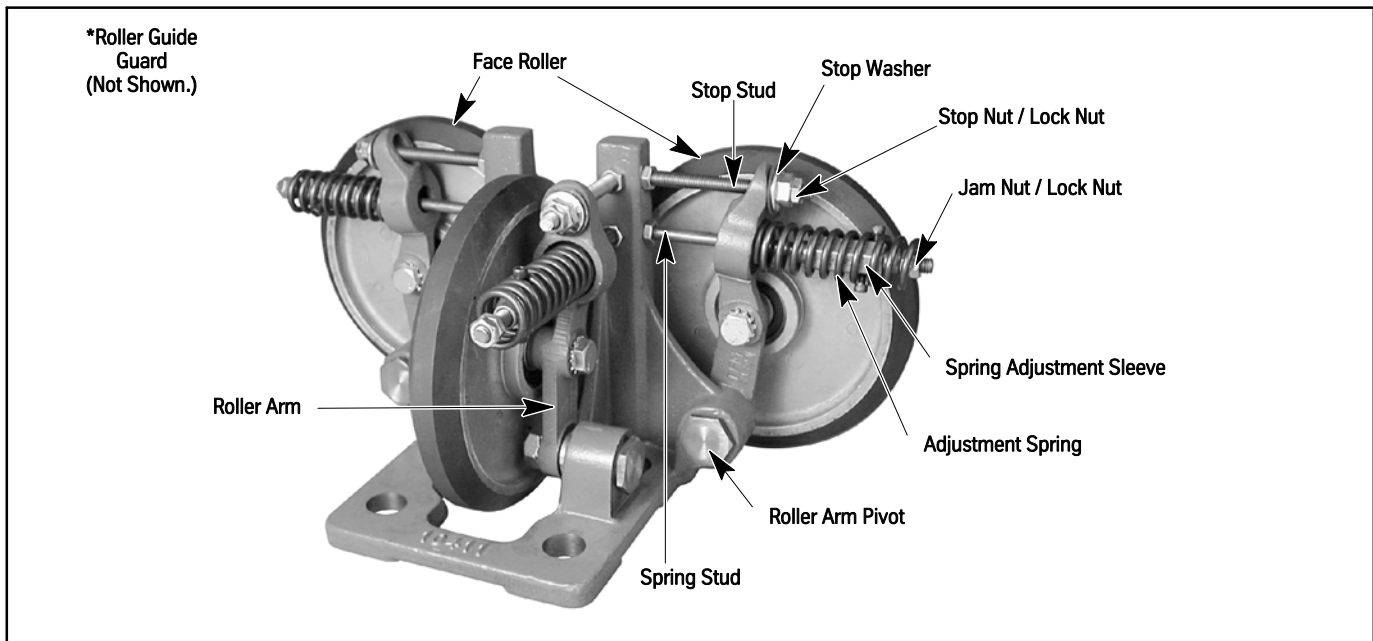

Figure 7 - 63190 or 63801 Roller Guide Assembly
- Set the spring adjustment sleeves. See Figure 7.
- Shift the base (as required) to center the slot on the rail. See Figure 7.